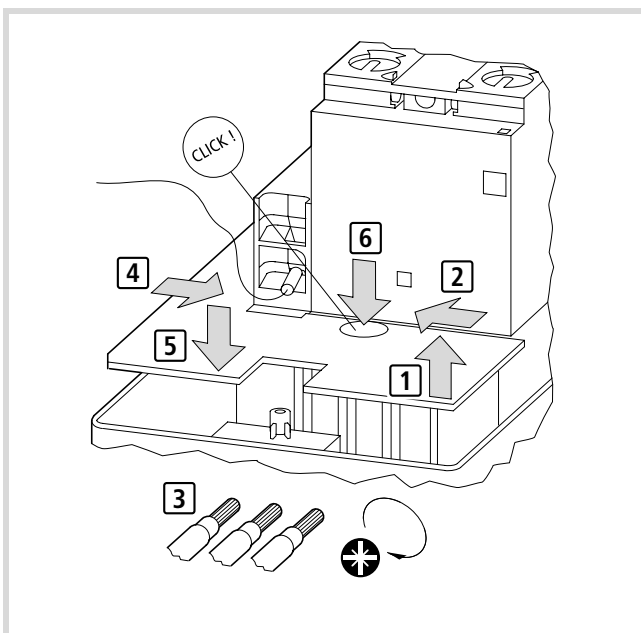

Figure 41: For additional protection of AS-Interface® from loosened cables, fit the cover plate (on).
For additional protection against loosening of cables, fit the cover plate (→ figure 41 on Page 42).
- ▶ For additional protection of AS-Interface® from loosened cables, fit the cover plate. The procedure is described in fig. 41.